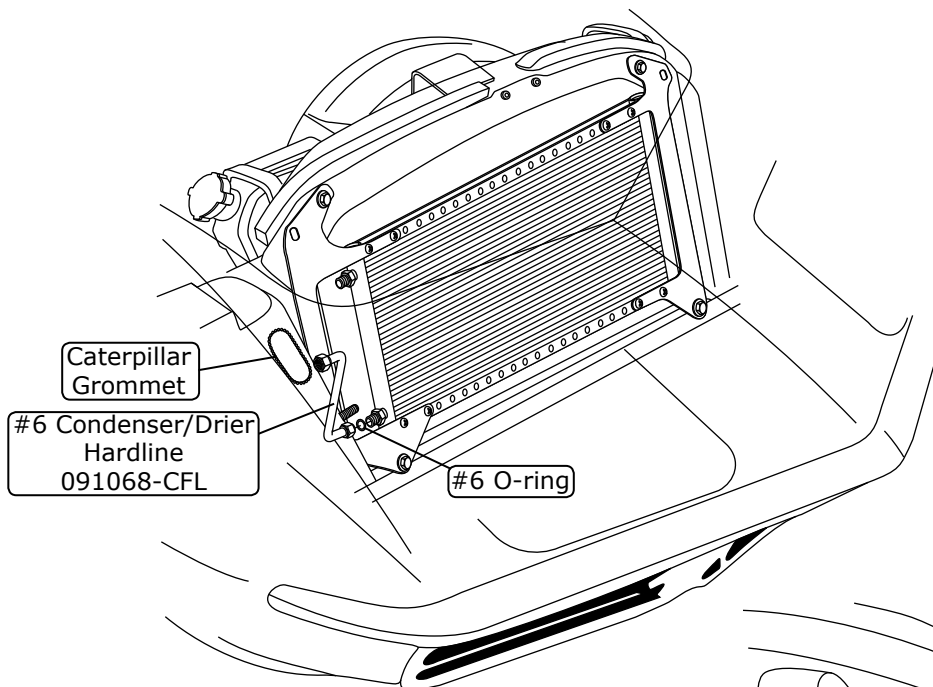

Figure 7
1. Install the caterpillar grommet around the front and rear holes in the inner fenderwell as shown in Figures 7 & 8, below.
2. Lubricate a #6 O-ring, and install the #6 condenser/drier hardline as shown in Figures 7 & 9, below. **NOTE: Do not fully tighten the #6 hardline at this time. Hand tighten only.**